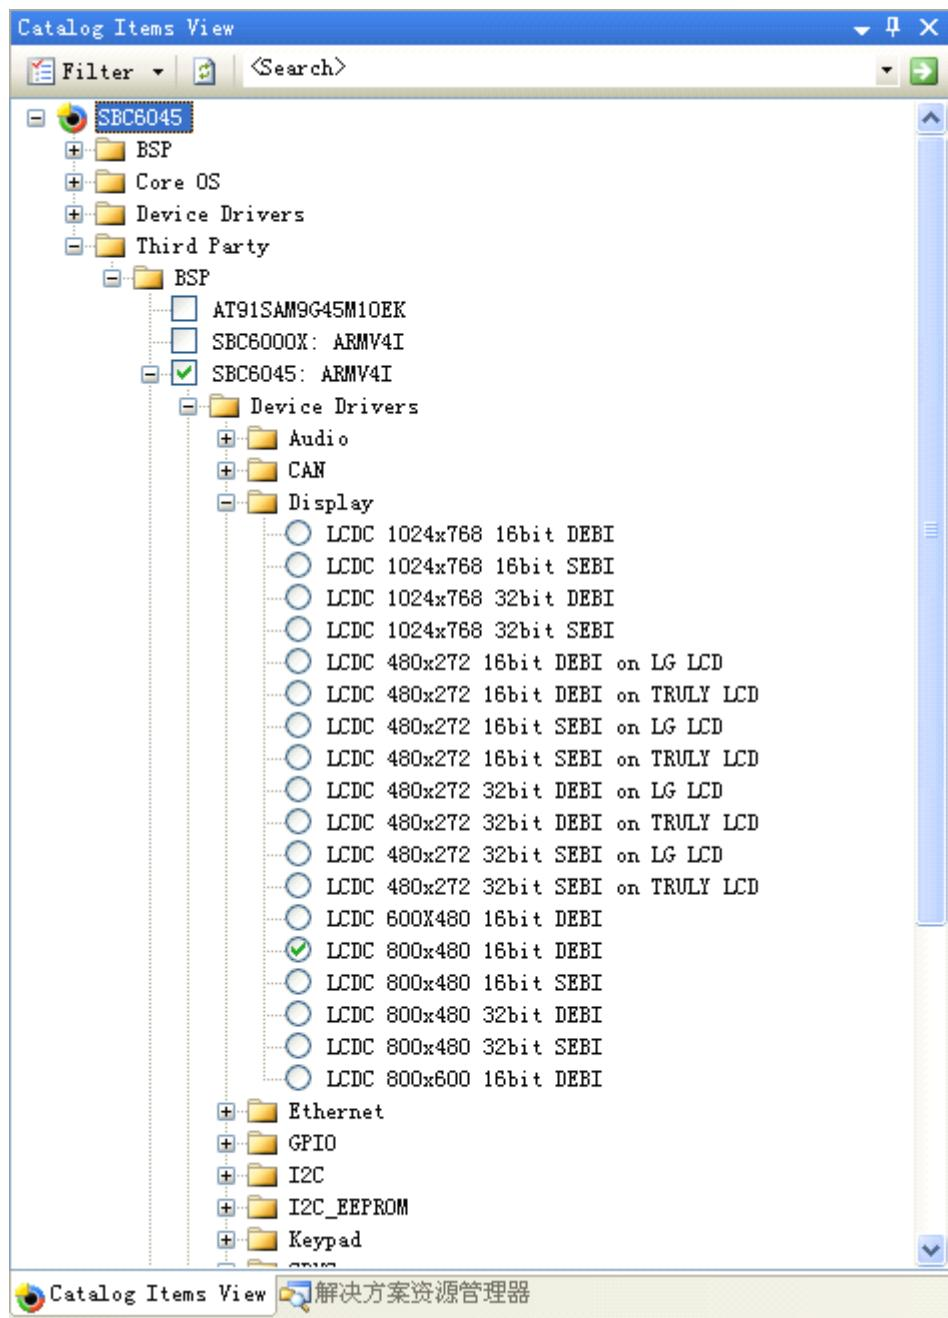

Figure 13.4.16
16. As shown in Figure 13.4.16, tick the driver of the module you need SBC6045 board, in View->Other window->Catalog Items View->SBC6045->Third Party->SBC6045: ARMV4I in VS2005. (For details of each driver module please refer to Section 13.5).